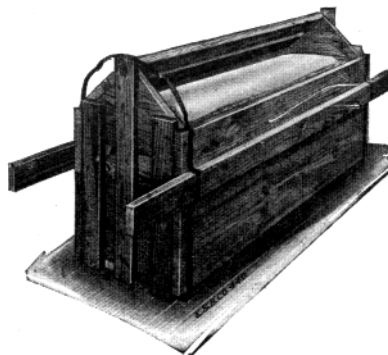

Fig. 3
1. Procure a strong box made with "A" shaped top (Fig. 3) to prevent the package from being placed upside down. The inside dimensions should be at least 2 inches greater than the overall size of the battery.